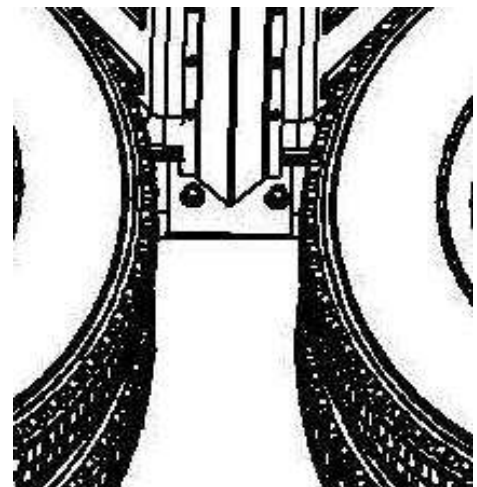

Figure 12
- A. The center bracket (PB2011) will be welded to the truck frame. It is possible to bolt a plate (not supplied) to the frame and weld the brackets to that plate (Figure 12). Another option is to weld the bracket directly to the frame.